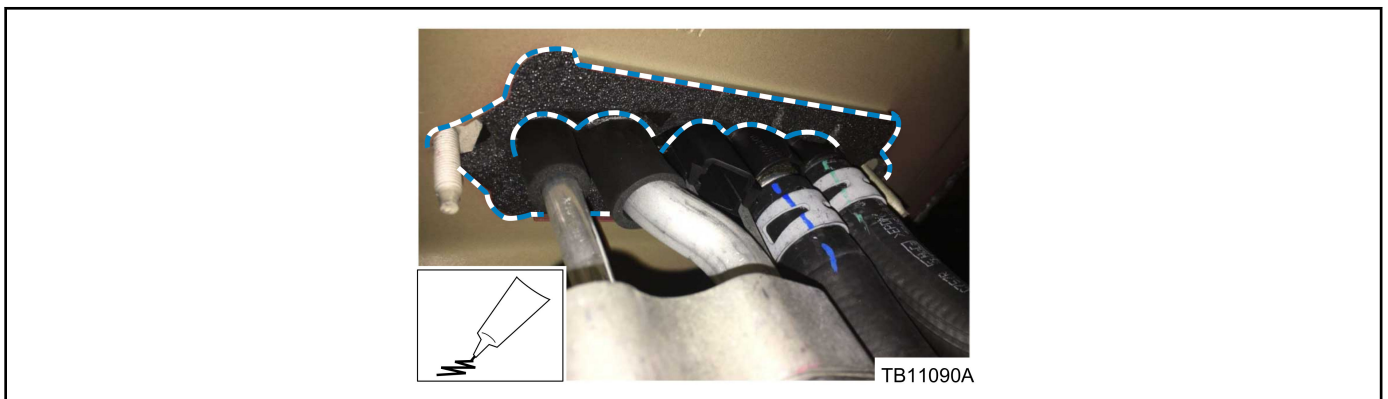

Figure 22 - Article 17-0044
- a. Rear evaporator inlet line seal viewed from underneath . Inspect for gaps and seal if needed with Motorcraft® Seam Sealer. (Figure 22)